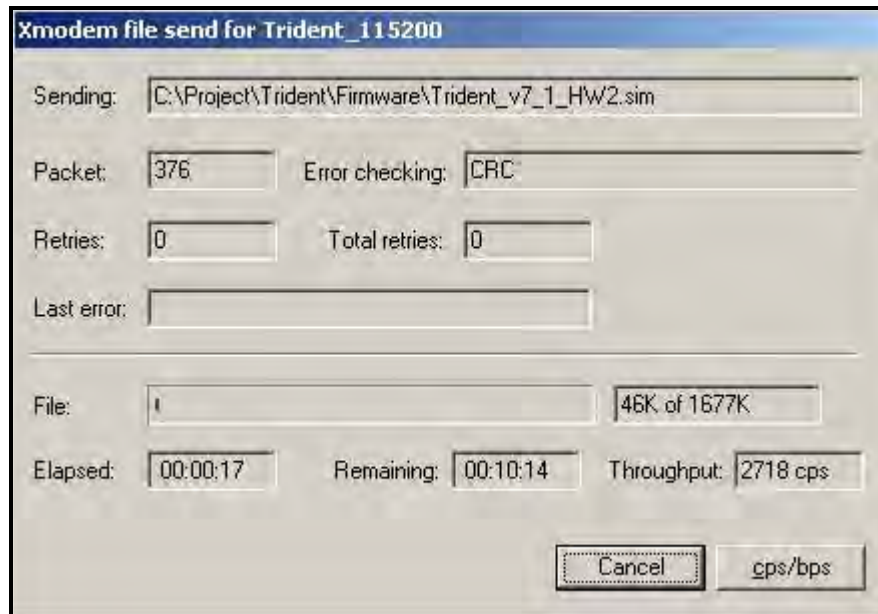
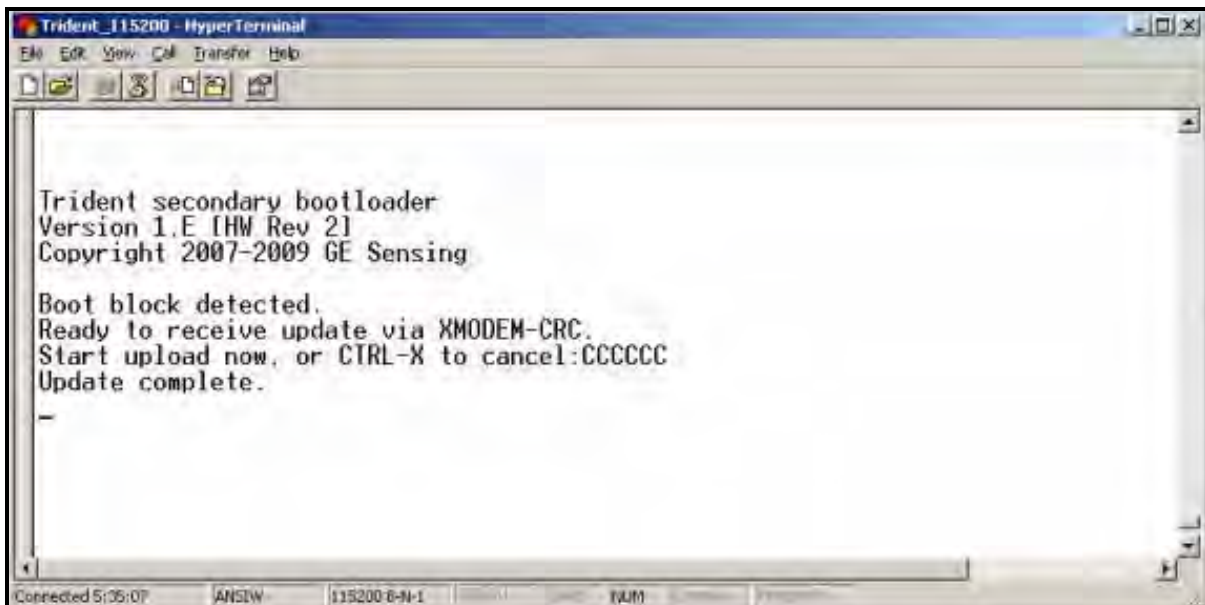

Figure 223: Sentinel LNG Transfer Status Window
Figure 224: PC Transfer Status Window
- In Hyperterminal, select *Transfer*, and then *Send File*. (The protocol should be Xmodem.) Use *Browse* to locate the file, which will have a .sim extension. Double click on this file and click the *Send* button. The screens on the **Sentinel LNG** (Figure 223) and on Hyperterminal (Figure 224) should both display the status of the transfer.